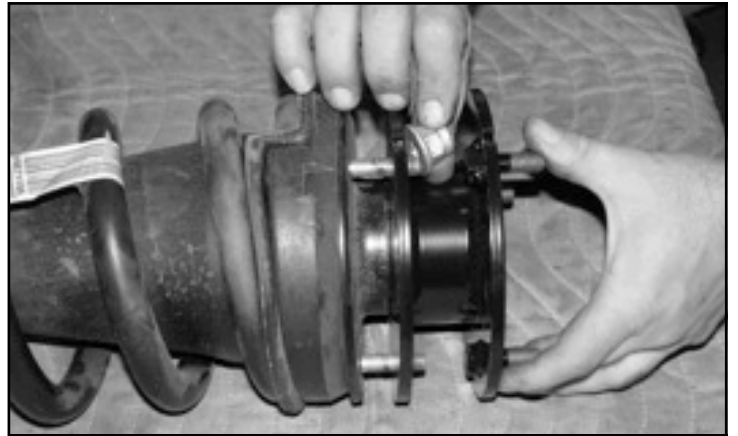

FIGURE 34 - STEP 33
33. Install the FT20560BK coil spacer using the factory nuts and torque to 30 ft-lbs. **SEE FIGURE 34**